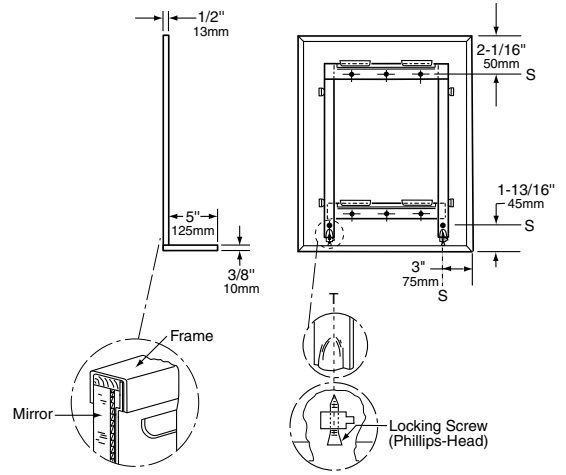

Figure: 2
**Frame** — Type 430 stainless steel, 1/2" x 1/2" x 3/8" (13 x 13 x 9.5mm) channel 1/4" (6mm) return at rear with bright polished finish. One-piece frame with 90 degree mitered corners. Galvanized steel back has integral horizontal hanging brackets near the top for hanging the mirror and near the bottom to prevent the bottom of the mirror from pulling away from the wall. Locking devices secure mirror to concealed wall hanger. In Screw Locking Design (see figure 2), concealed Phillips-head locking screws securely fasten mirror to wall hanger.